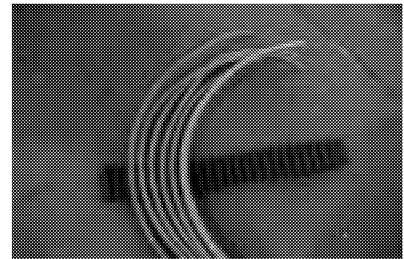
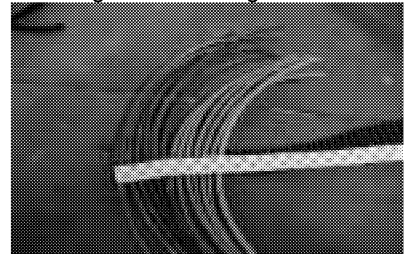

Figure 10 Sealing Gasket
Figure 11 Double-Faced Adhesive tape
7. Each wire must be placed into a separate groove of the sealing gasket (3-201623) see Figure 10. After all wires have been separated, place double-faced adhesive tape (918193), or equivalent, over wires and sealing gasket see Figure 11. Roll the sealing gasket and wires into a cylinder, starting at the end of the gasket with wires, to form a wire-sealing dam. Wrap electrical tape around outside of dam see Figure 12. Insert a dam into the top of the conduit such that the top of the separator is 1 1/8 to 1 1/4 inch deep, see Figure 13.